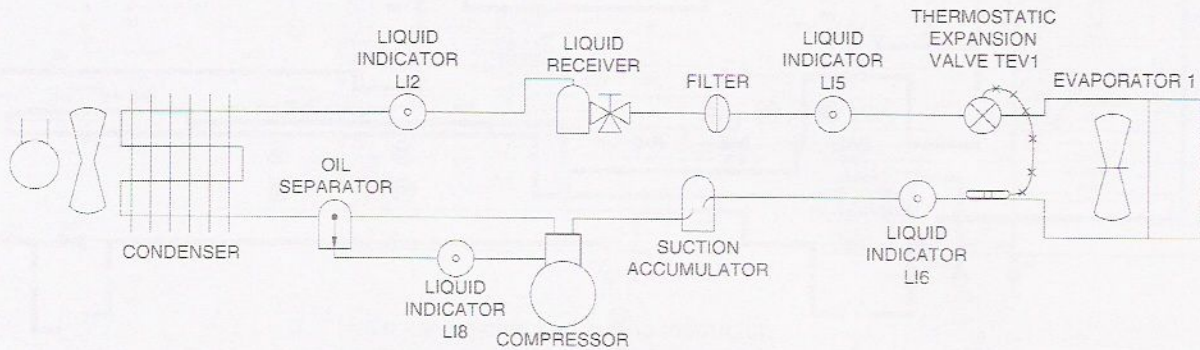
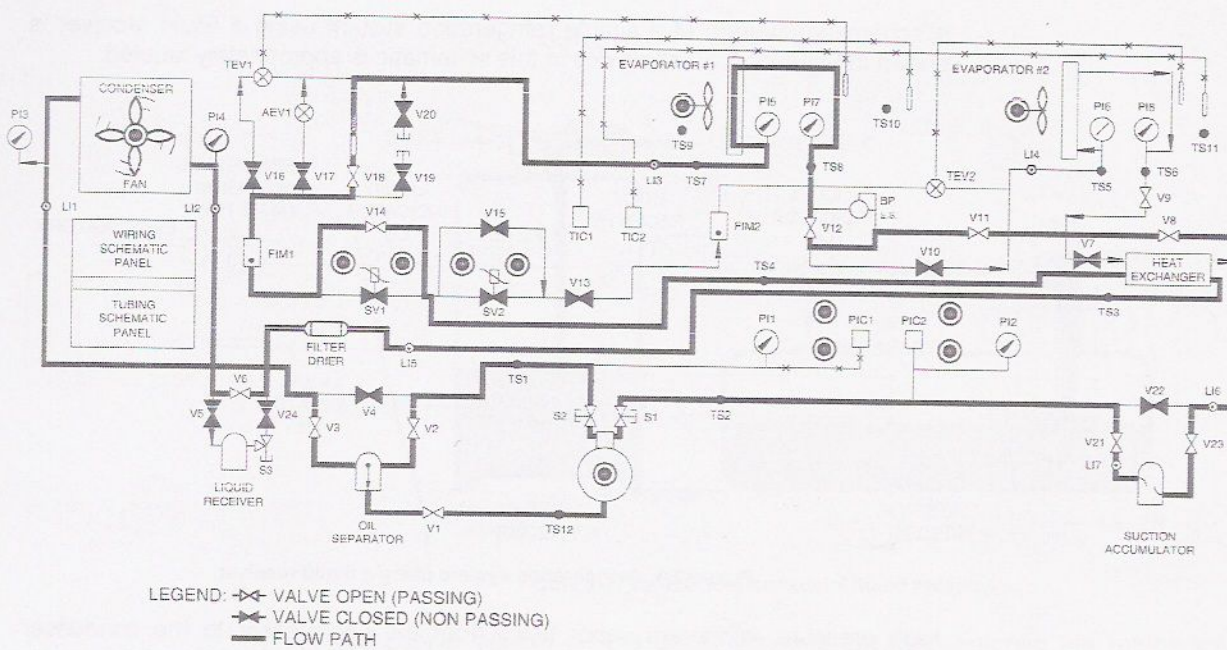

Figure 2-3. Refrigeration system using a liquid receiver.
Figure 2-4. Valve configuration.
A schematic diagram of a simple refrigeration system using a liquid receiver is shown in Figure 2-3. Each device in this schematic is appropriately labeled.
The manual valves which must be opened or closed to arrange this system are not indicated on this schematic. However, a pictorial diagram of the system panel, shown in Figure 2-4, indicates the open and closed manual valves. The valves that are darkened are closed. A pictorial diagram is not used in the field since it requires too much time to draw and is therefore not practical. It is therefore necessary for you to become familiar with the schematic diagram as soon as possible.
1. Open and close the manual valves to arrange the refrigeration system as shown in Figure 2-3. The trainer's schematic panel (tubing section) shown in Figure 2-4 may be used to assist at this point.